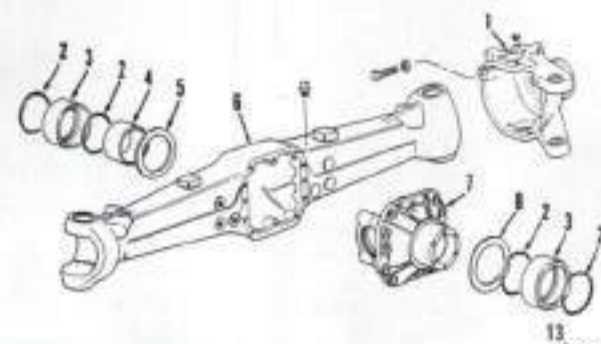
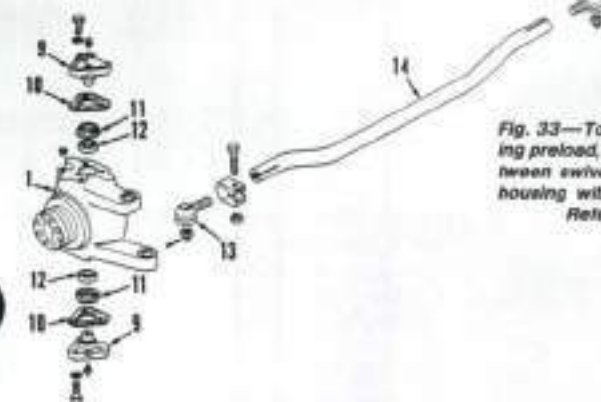

Fig. 32—Exploded view of Carraro Type 709/19 front drive axle used on late Models 1394, 1494 and 1594.
Fig. 33—To set swivel bearing preload, measure gap between swivel pin and swivel housing with a feeler gauge. Refer to text.
To remove swivel housing (1—Fig. 32), disconnect steering cylinder from left-hand steering arm. Disconnect tie rod end from swivel housing arm. Remove upper and lower swivel pins (9) and shims (10). Withdraw swivel housing from axle housing.
**38. SWIVEL BEARING PRELOAD.** Shims (10—Fig. 32) are used between swivel pin (9) and housing (1) to adjust bearing preload. Correct preload setting is 0.2 mm (0.008 inch). To adjust, install bottom pin without shims and tighten bolts to 83 N·m (60 ft.-lbs.) torque. Support the weight of the axle with a jack under bottom pin. Install top pin without shims or bolts making sure bearing cone is fully seated in cup. Measure the gap between flange of swivel pin and swivel housing (Fig. 33). Select shim pack which is 0.1-0.2 mm (0.004-0.008 inch) less than the gap measurement. Divide shim pack equally and install half of the shims